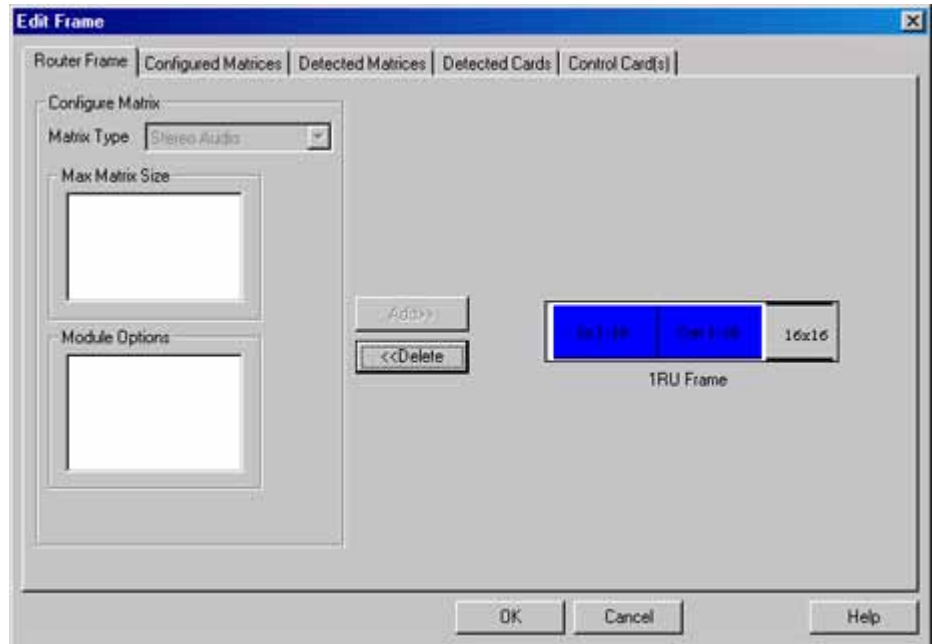

Figure 1-2 Router Frame Tab for Standard Module
- 2 Select the Router Frame tab. Panacea module information such as matrix size, type, and module options will be displayed (see Figure 1-2). Information for an enhanced module will differ slightly.